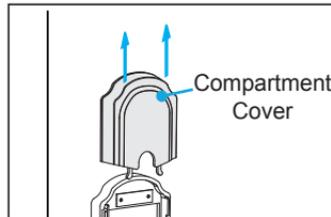
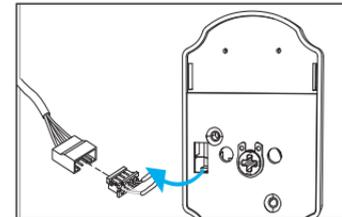

Fig. 9
Fig. 10
Step 4. Remove battery compartment cover. (Fig. 9) Then carefully connect the two power cables. (Fig. 10) Ensure the connector is seated properly and firmly.